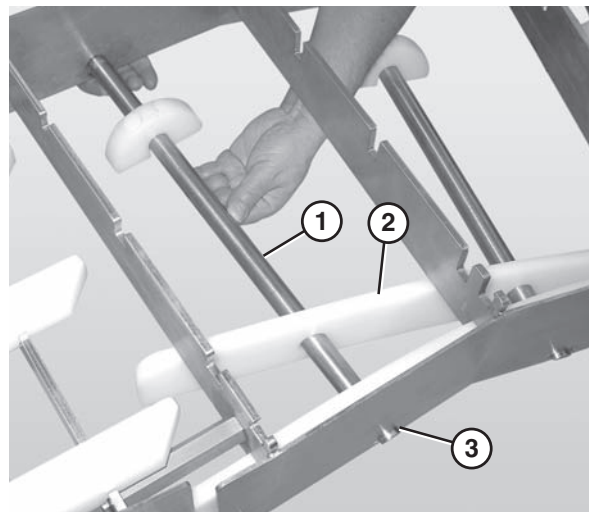

Figure 33
3. Slide the long end of the curve return shaft (Figure 33, item 1) through the center hole in the return bottom wear strip (Figure 33, item 2).
5. Push up on the return shaft and slide the notched end of the shaft through the small slot on the opposite side of the frame (Figure 33, item 3).